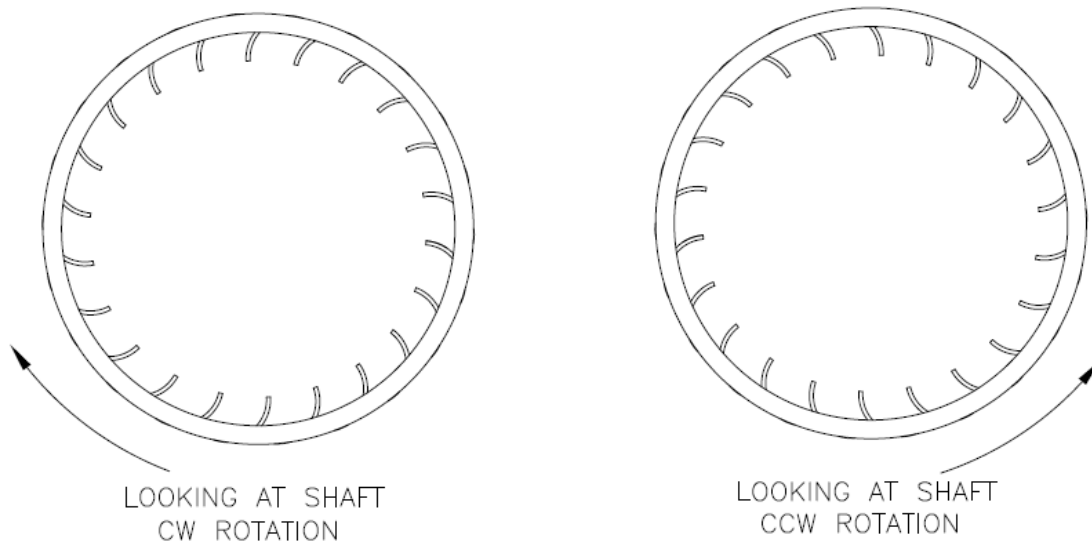

FIG. 2
- 9.5 The 16-2527 Blower Wheel rotation must match the rotation of the shaft. See FIG. 2. Push the Blower Wheel onto the shaft until you have the same spacing as the old wheel. Fit the motor and wheel into the Lower Housing (17-2642). Adjust the position of the wheel on the shaft so it does not touch the housing on either side. Adjust the spacing of the wheel on the shaft as necessary. When the proper spacing is achieved attach the 916-901 Clip on the Blower Wheel.